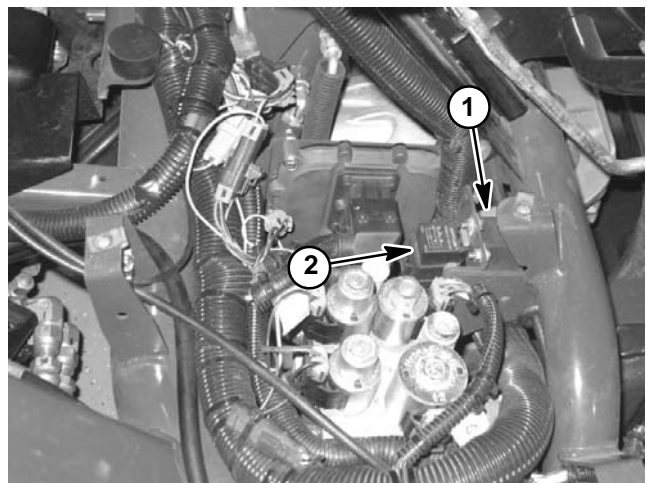

Figure 77
The Greensmaster TriFlex Hybrid electrical system includes a five (5) terminal relay for current control. The kill relay is used only on Greensmaster 3320 machines. The start relay is used only on Greensmaster 3420 machines. These relays are located under the right side cover next to the operator seat (Fig. 77) and can be identified by a tag near the relay wire harness connector.